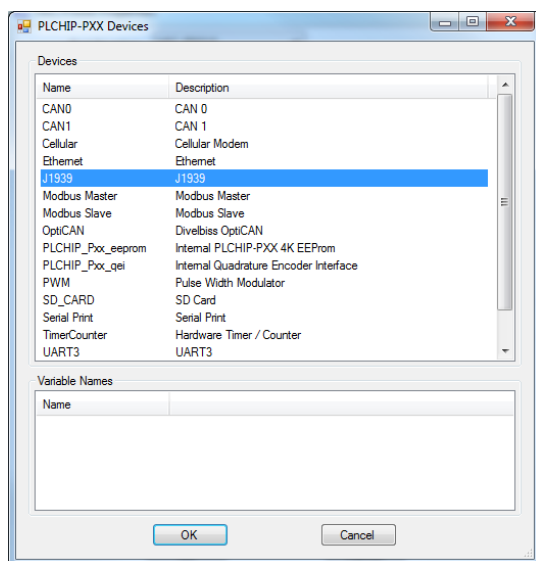

Figure 2-50 - PLCHIP-PXX Devices - J1939
- Click / select **OptiCAN** (highlight). Refer to Figure 2-50.